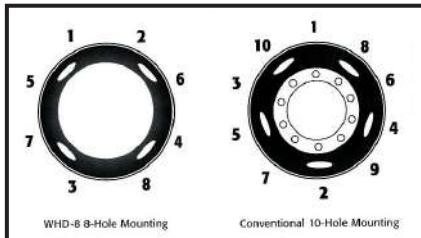

Figure 6 - Proper tightening and torquing sequence
7. With drive hubs, check the oil level in the drive housing and add oil as required by the manufacturer's specifications. When installing drive hubs, position a new gasket over the drive studs and install the axle through the hub. Use derive cones as recommended by the axle manufacturer. Torque the nuts to the manufacturer's specifications using a sequence similar to that shown on page 11, Figure 6. If wheel hubs are equipped with oil fill/drain plugs, add a pint of oil to each wheel-end.
- 3.** Draw up the nuts alternately in the sequence shown in Figure 6. DO NOT tighten them fully at this time. Stud and cap nut threads should be clean and dry; no oil should be used beyond the first three threads.
- 5.** Tighten and torque the nuts fully, using the same alternating sequence as shown in Figure 6. Tighten them only to the recommended torque level as shown in the chart on page 13. Use a torque wrench to verify the proper torque, especially if an air wrench or bar wrench has been used to tighten the nuts.